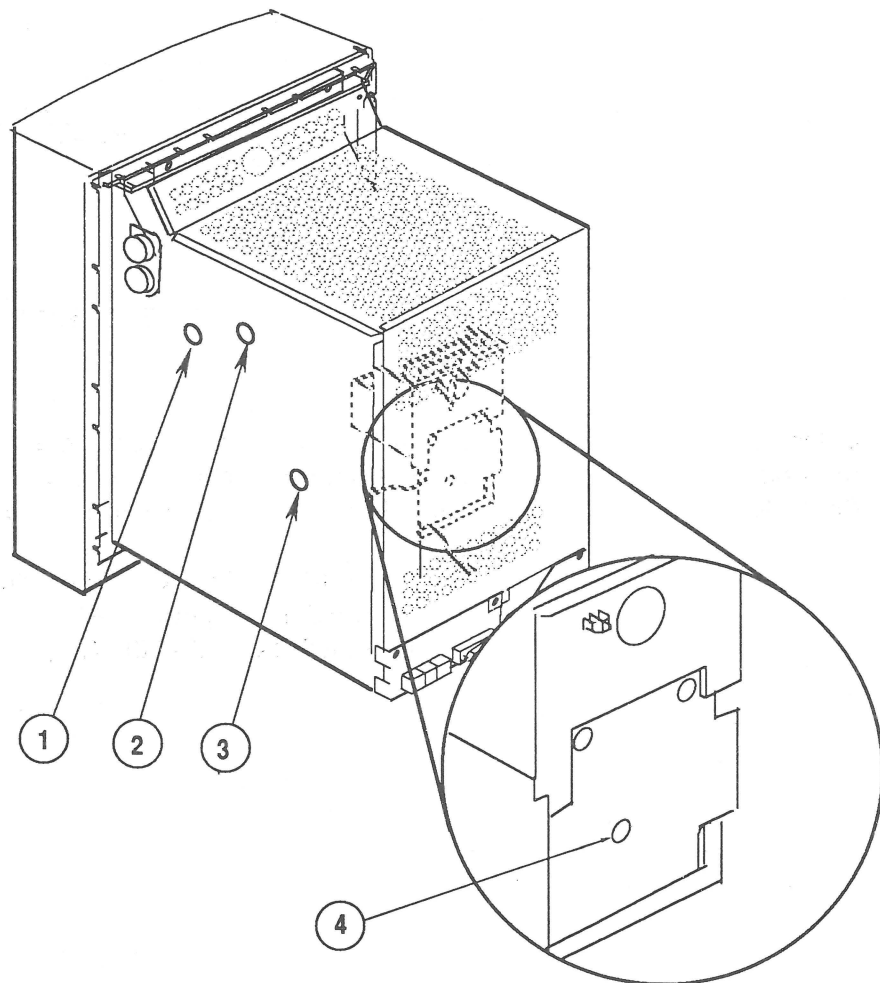

FIGURE 3
- BIAS (Figure 3, #1)
- GAIN (Figure 3, #2)
- SUBBRIGHT (Figure 3, #3)
CUTOFF (Figure 3, #4)